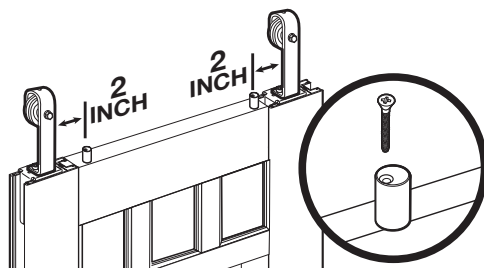

Figure 12
Once the Roller brackets have been secured and the finishing strips in place, it is important to install the Safety spacers (W). These spacers help to protect the door from being bumped off of the track. With the door laying flat in a safe and secure position, place one of the two spacers approximately 2" to the inside of one of the roller brackets. Place slightly off center towards the front of the door. Using a drill, secure the spacer with the screw provided. Rotate the spacer outward. Repeat steps to install the second spacer inside the other roller bracket. See Figure 12.
See Figure 12.